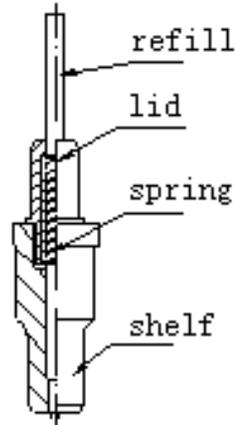

Figure 2-2
- ① Using pen you can plot the characters or graphics that you have designed on the paper, when plotting, you should reduce the down force in order to avoid damaging the paper. Meanwhile you should give up the compensation in the software, and increase the cutting speed.(Figure 2-2)
② Pen Installing: